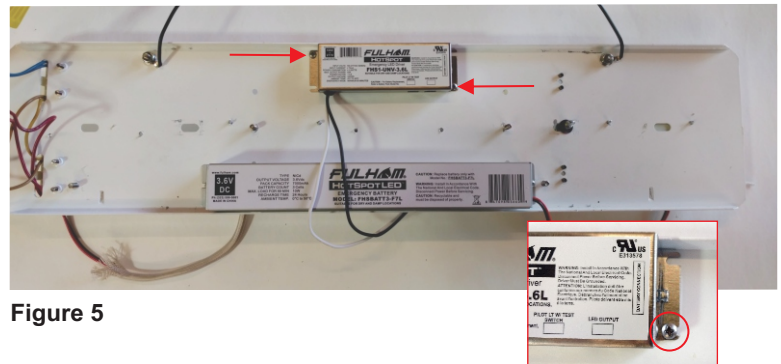

Figure 5
8. Place the LED Driver (A) on the location indicated on figure 5.
9. Secure the LED Driver (A) to the luminaire mounting plate using two 6-20 X 3/8" Self Drilling Screws (D). See Figure 5.